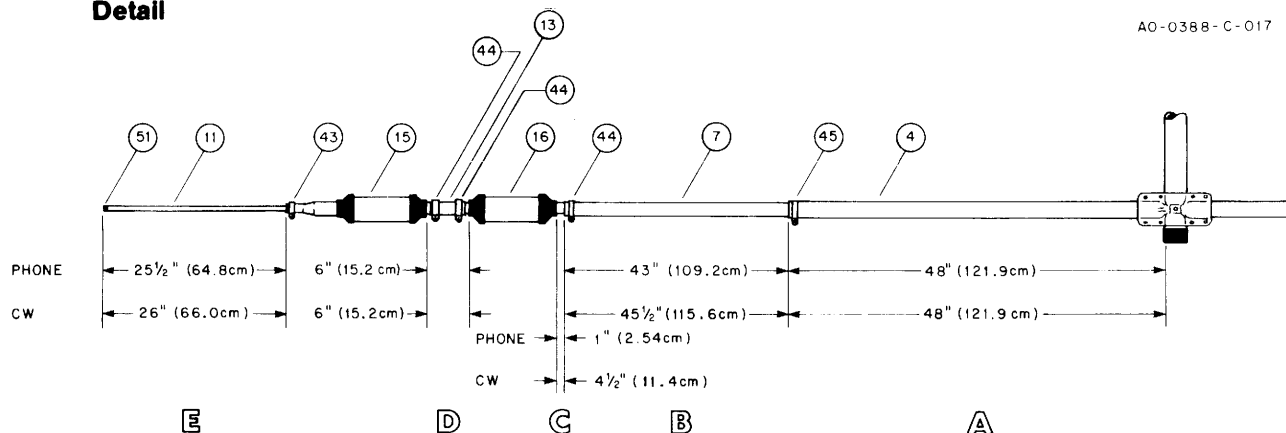

Figure 10
Select the R1 section of tubing ($1\frac{1}{4}$ " x 48", 121.9 cm long, item 4). Slip a $1\frac{1}{4}$ " compression clamp onto the R1 section. Refer to Figure 8. Select the R2 section ($1\frac{1}{8}$ " x 48", 121.7 cm long, item 7). Slip the unswaged (untapered) end of the R2 section into the R1 section and measure dimensions B for your mode of transmission (phone or CW) as shown in Figure 10 then tighten the compression clamp slightly.
Slip a 1" compression clamp onto the swaged end of the R2 section. Select the 10-meter trap (item 16), and slip the shorted end into the R2 section. The shorted end can be identified by the part number marking near the plastic insulator. Measure dimension C for your mode of transmission as shown in Figure 10. Make certain the drain holes in the traps are facing downward.
Slip two 1" compression clamps onto the R3 section (1" x 5", 12.7 cm long, item 13). Now slip the R3 section over the 10-meter trap and slip the shorted end of the 15-meter parasitic trap (item 15), into the R3 section. Make certain the shorted end of the trap (identified by the part number) is inserted into the R3 section. Measure dimension D for your mode of transmission as shown in Figure 10, keeping R3 section approximately equidistant from the two traps. Make certain the drain holes in the trap are facing downward. Now tighten all compression clamps slightly.
Slip a 1/2" compression clamp over the swaged end of the 15-meter trap. Select the R4 section (7/16" x 28", item 11) and slip it into the 15-meter trap. Measure dimension E for your mode of transmission as shown in Figure 10, then tighten compression clamp slightly.